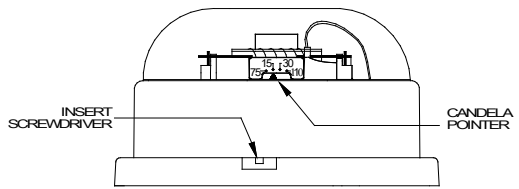

Figure 5
6. To move selector switch, insert screwdriver into slot shown on the bottom side of the strobe. The setting is indicated by a pointer and can be seen on the bottom side of the lens. See Figure 5.
7. Mount the speaker mounting plate to the backbox. Next slide the grille over the speaker mounting plate strobe and attach with (2) screws.